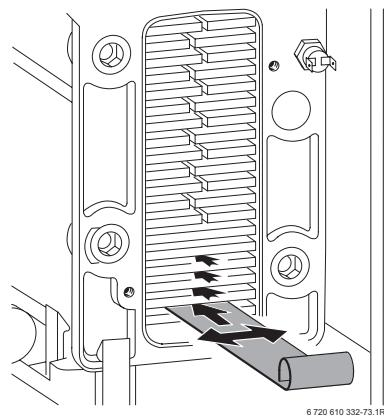

Fig. 49
- ▶ Loosen any deposits in the heat exchanger from top to bottom using the cleaning blade. Refer to fig. 49.